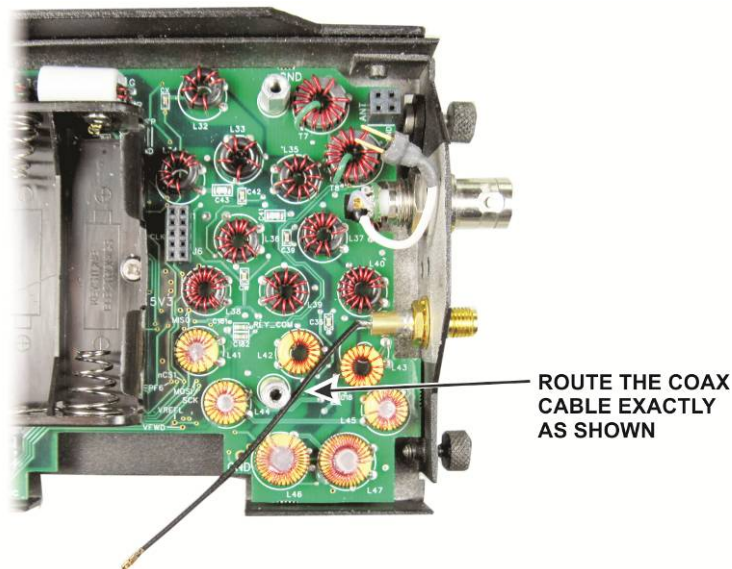

Figure 16. Routing the Antenna Coax.
- Route the antenna coax cable across the RF board, between the toroidal inductors and alongside the standoff exactly as shown in Figure 16.